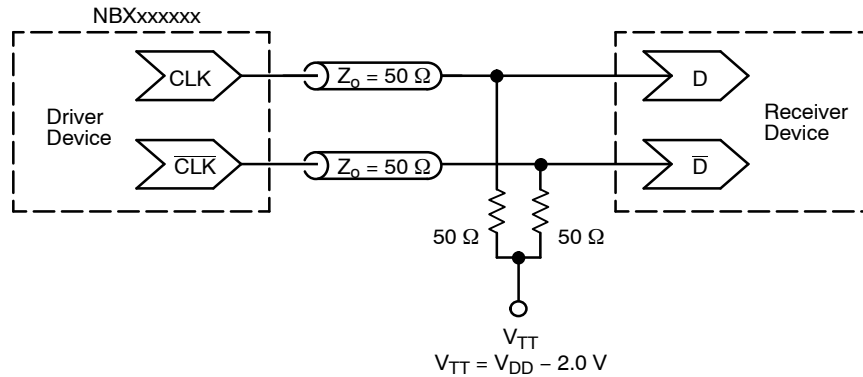

Figure 5. Typical Termination for Output Driver and Device Evaluation (See Application Note AND8020/D – Termination of ECL Logic Devices.)
2. Measurement taken with outputs terminated with 50 ohm to $V_{DD}-2 \text{ V}$. See Figure 5.
3. Measurement taken with outputs terminated with 50 ohm to $V_{DD}-2\text{ V}$. See Figure 5.